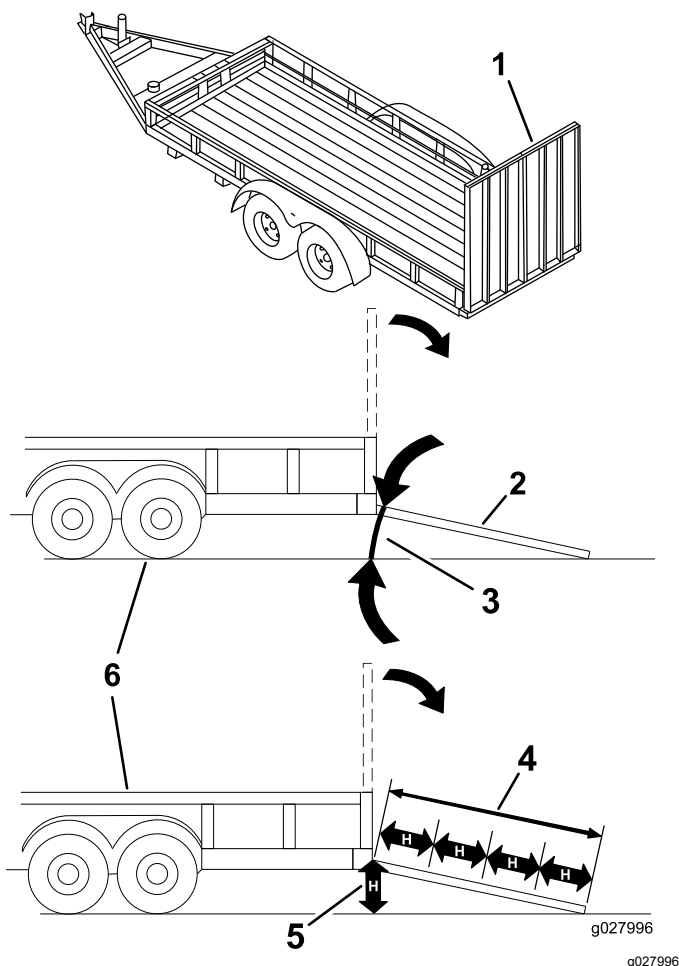

Figure 40
**Loading a machine onto a trailer or truck increases the possibility of tip-over and could cause serious injury or death (Figure 40).**
3. Lower the ramp, ensuring that the angle between the ramp and the ground does not exceed 15 degrees (Figure 40).
1. Lower the ramp, ensuring that the angle between the ramp and the ground does not exceed 15 degrees (Figure 40).